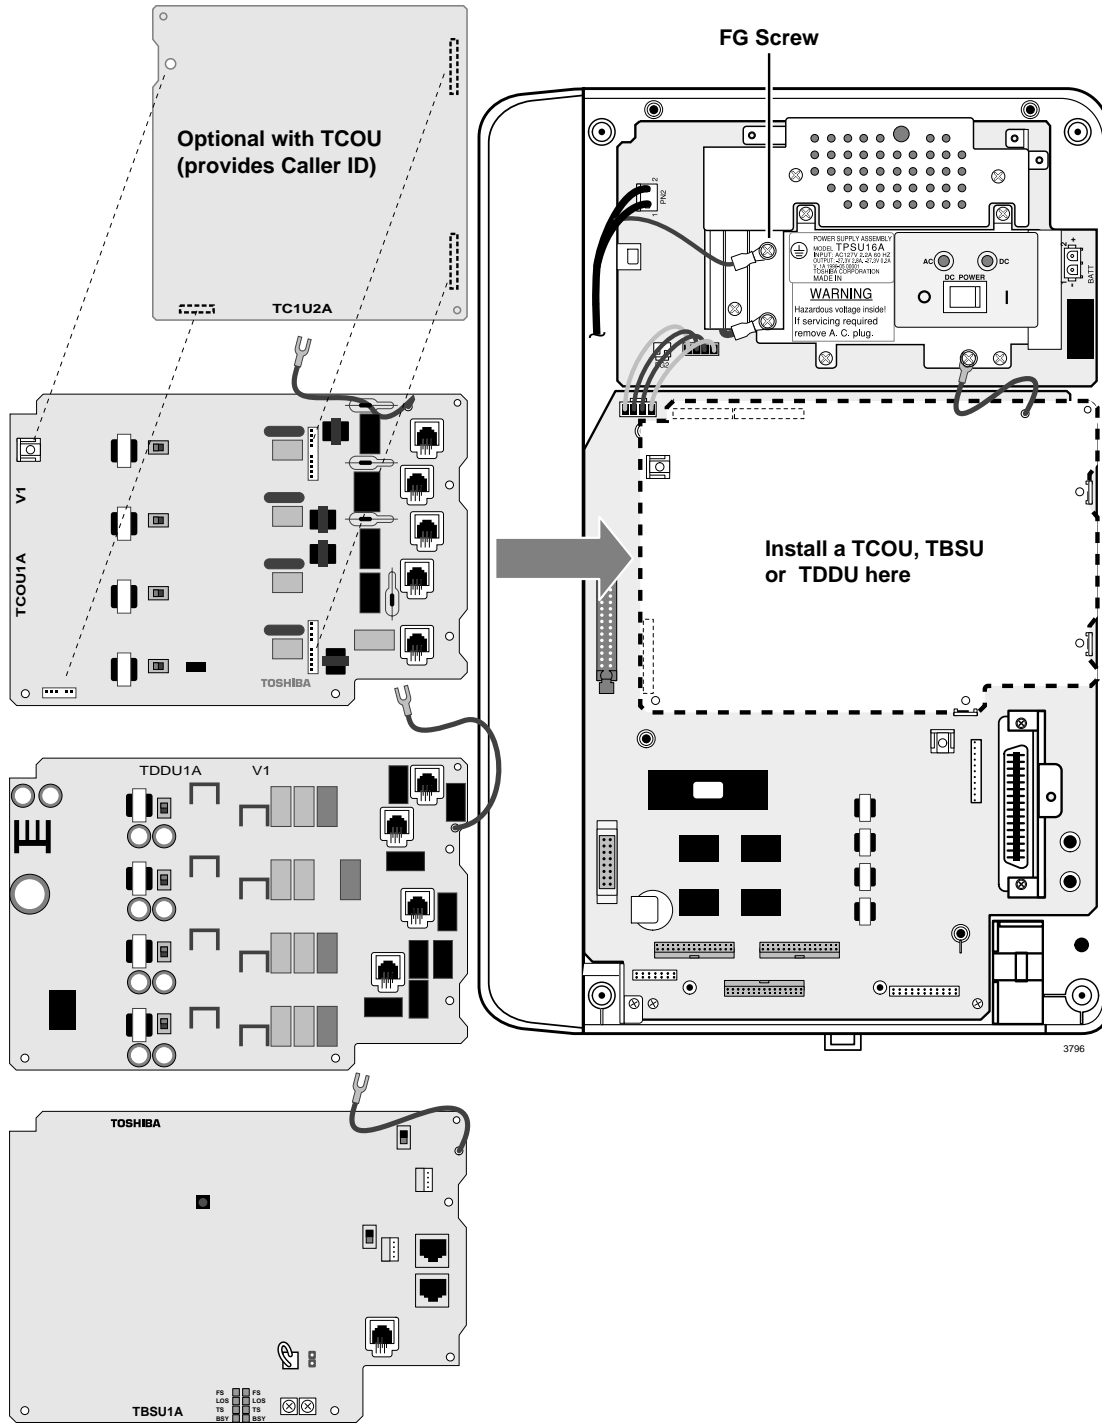
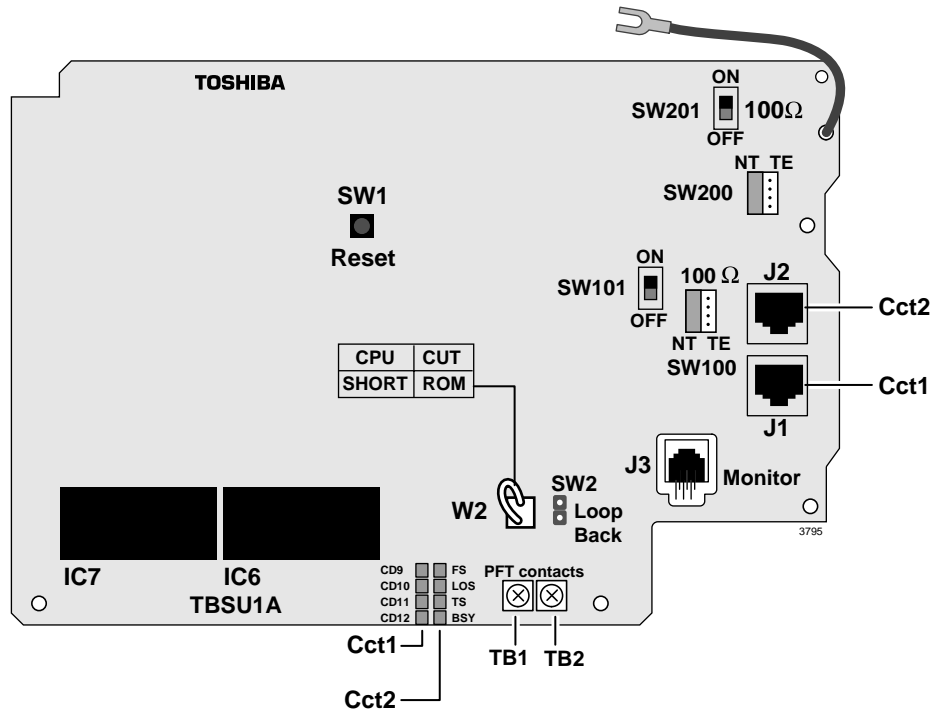
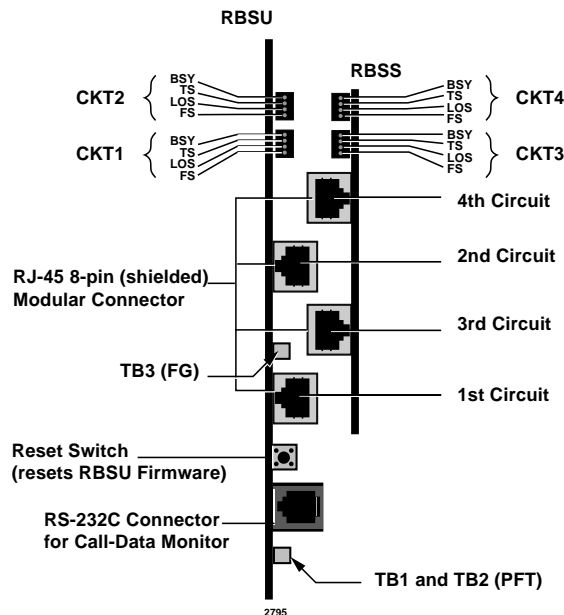

Figure 14-17 Installation of TBSU into DK40i
Figure 14-18 TBSU Switch Layout
Figure 14-19 Location of LEDs and Connectors
- Set all option switches and jumpers on the TBSU, RBSU, and RBSS PCBs before plugging the RBSS onto the RBSU or inserting the RBSU into the system. RBSU/RBSS switch/jumper information and locations are shown in Figures 14-14, 14-15 and Table 14-8. TBSU switch/jumper information is shown in Figure 14-18 and Table 14-10.
After setting the switches and jumpers and installing the plug-on PCBs as described in the preceding paragraphs, the RBSU/RBSS PCBs can be installed in the appropriate cabinet slots. Refer to RBSU/RBSS Capacity and Cabinet Slot Information on Figure 14-18. After the RBSU/RBSS is installed in the DK424 cabinet or DK40i Expansion Unit, the status LEDs and connecting jacks are positioned as shown in Figure 14-19.
Carefully align the TBSU connector pins with P11 and P12 on the DK40i motherboard and install the TBSU into the DK40i Base Unit. Use the two supplied screws to secure the TBSU to the motherboard. Figure 14-17 shows the TBSU mounting on the DK40i and Figure 14-18 shows the TBSU switch layout. Table 14-10 shows the TBSU option switches.
The TBSU and RBSU/RBSS BRI circuit jack is a shielded RJ-45 (8-pin modular) with Transmit (Tx) and Receive (Rx) pin numbers as shown in Figure 14-19. The Tx and Rx pin numbers change when the BRI circuit is configured with TBSU and RBSU/RBSS option switches for TE or NT (Tables 14-8 and 14-10). If the R40S is installed on the RBSU, the PS-1 voltage is carried on the Tx/Rx wires with polarity. (See Table 14-11).
The position of the TBSU BRI and RBSU/RBSS circuit jacks are shown in Figure 14-18 and 14-19 respectively.
TB1 and TB2 are the connecting points that interface a pair of dry contacts that can be used for power failure switching purposes (see Figure 14-19 for the locations). When the DK system (TBSU and RBSU) has power (from AC source or batteries) there is a short circuit across TB1 and TB2. In the event of no power to the DK424, there is an open circuit across TB1 and TB2. The specifications for TB1 and TB2 contacts are:
TB3 is a screw terminal that can be used to connect a ground wire to the RBSU PCB (see Figure 14-19 for the location). This ground enables the RBSU/RBSS to meet Electro Magnetic Compatibility (EMC) requirements. As of Release 4.1, RBSU complies with EMC requirements without grounding TB3 on the RBSU, so it is not necessary to connect a ground wire to TB3.